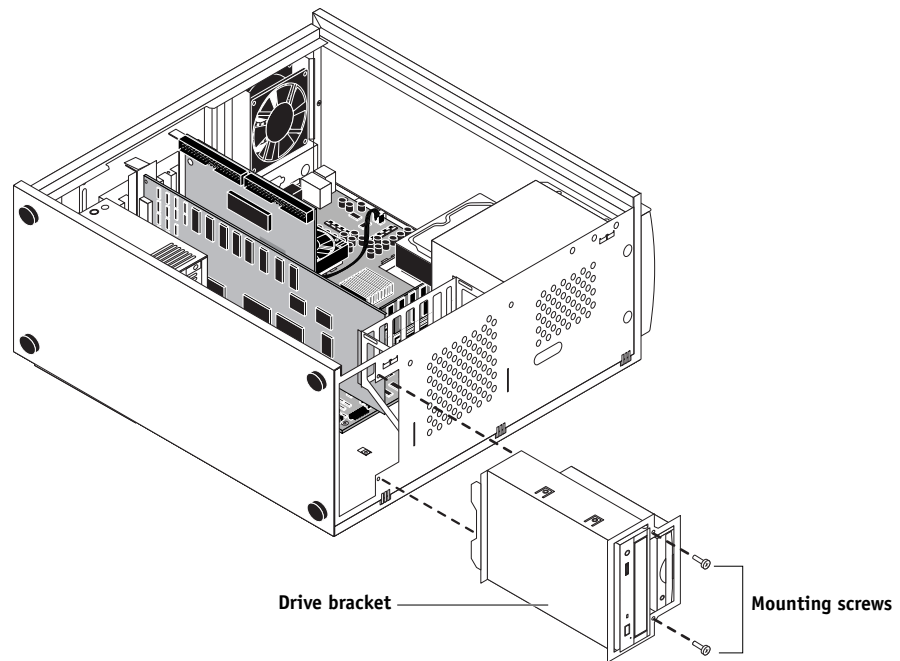

FIGURE 4-29 Removing/replacing the drive bracket
4. Replace the two screws on the front of the chassis that secure the drive bracket to the chassis (see Figure 4-29 on page 4-56).